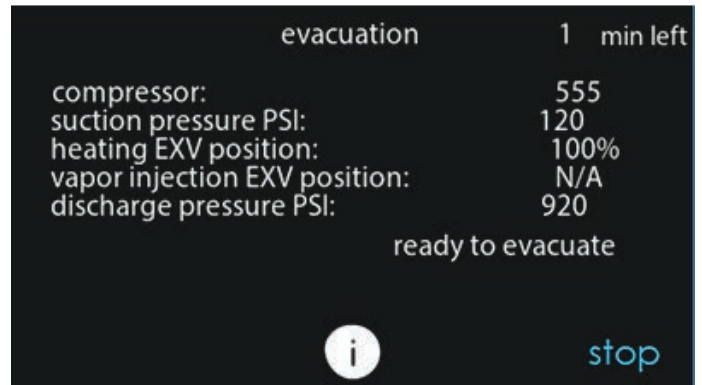

Fig. 28 – Evacuation Status Screen
5. Begin evacuation or refrigerant recovery as required for the procedure after Infinity® System Control indicates the EXV is open. Power may be removed from heat pump after the Infinity® System Control indicates "READY TO EVACUATE." See Fig. 28.